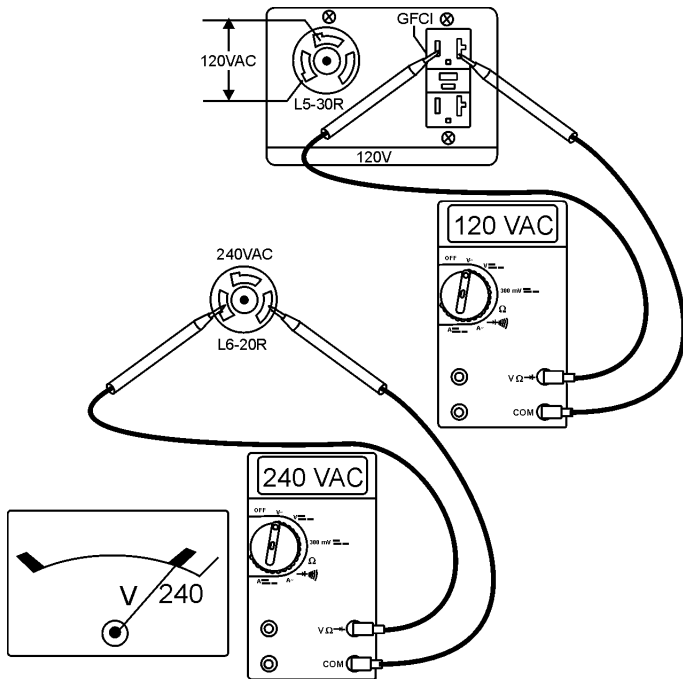

Figure 22. 60 Hz Output Receptacles
5. Read the **voltmeter** on the front panel of the generator (Figure 22) and verify that 240 VAC is present at the 240V twist-lock receptacle. Using an external voltmeter verify that 120V is present at the 120V twist-lock and GFCI duplex receptacles.